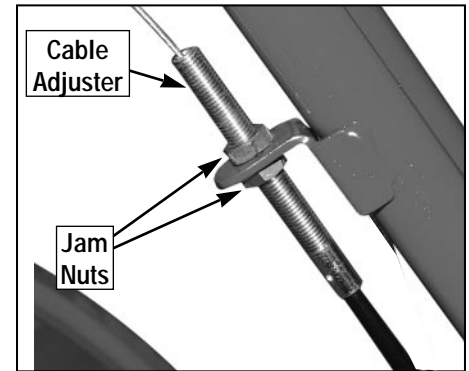

Figure 2-7
3. Attach the cable adjuster (Figure 2-7) to the bracket on the right-side handlebar. Use two 1/2" wrenches to loosen the two jam nuts just enough to slide the cable adjuster onto the bracket. Then hand tighten the jam nuts.